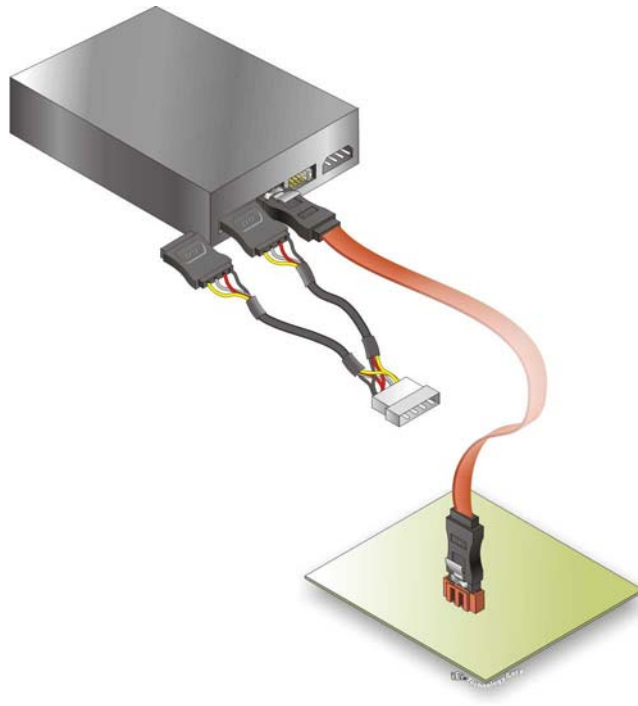

Figure 4-11: SATA Power Drive Connection
Step 3: **Connect the cable to the SATA disk.** Connect the connector on the other end of the cable to the connector at the back of the SATA drive. See **Figure 4-11**.
Step 4: **Connect the SATA power cable (optional).** Connect the SATA power connector to the back of the SATA drive. See **Figure 4-11**.